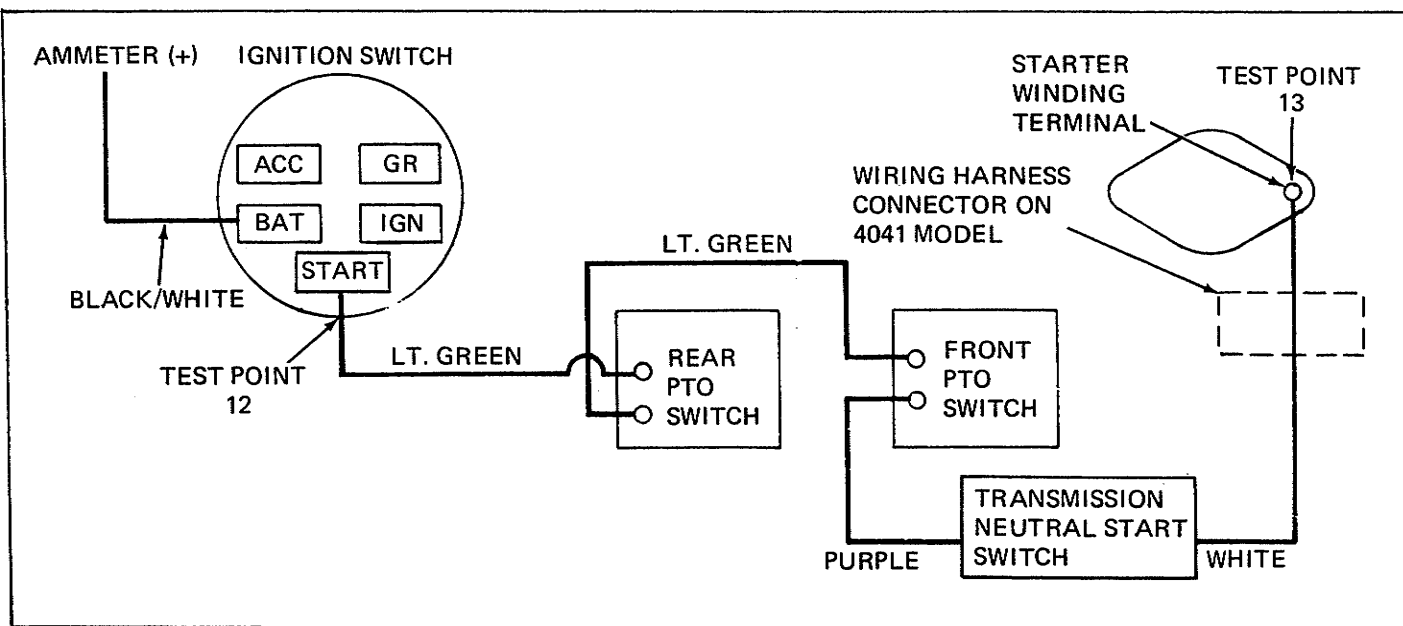

Figure 78. Starting Circuit (4040)
**STARTING CIRCUIT (Figures 78 and 79)**
Make sure the circuit is wired correctly and all connections are clean and tight. Refer to Figures 78 and 79, Starting Circuit.
**Wiring Circuit Check (Figures 78 and 79)**